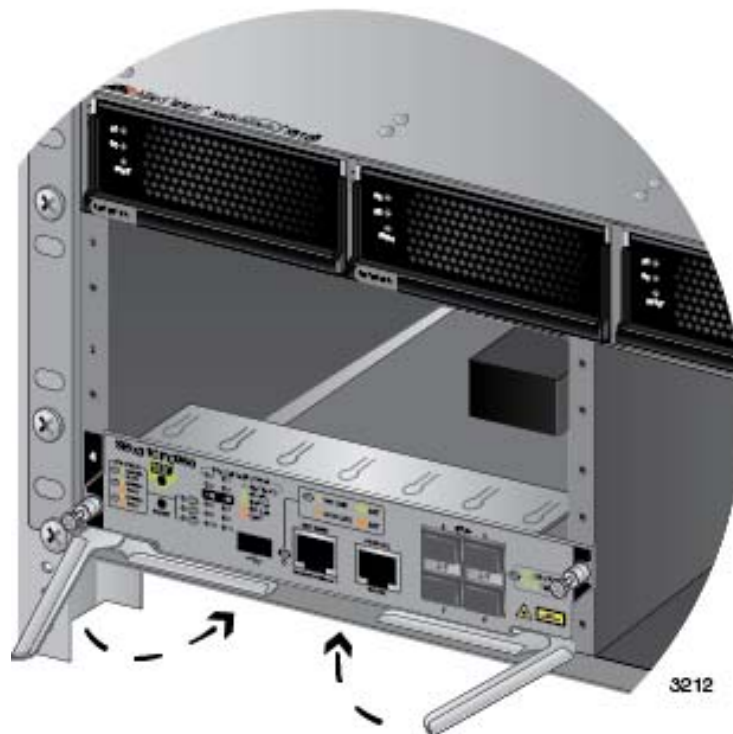

Figure 79. Closing the Locking Levers on the AT-SBx31CFC960 Controller Fabric Card
8. When you feel the card make contact with the connector on the backplane of the chassis, carefully close the two locking levers on the front panel of the controller card to secure it in the chassis. Refer to Figure 79 on page 140.